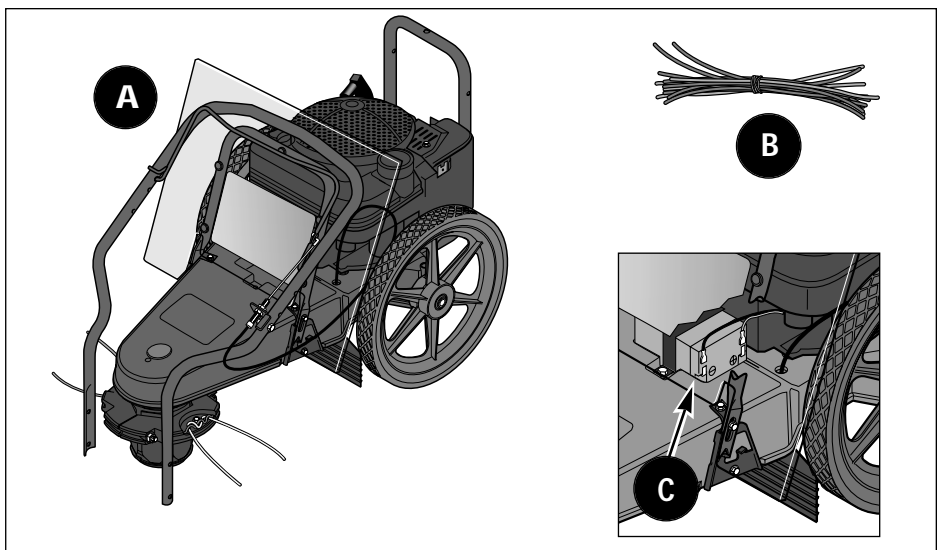

Figure 2-1: Unit as shipped (recoil start model shown). Battery for electric start model is shown in inset.
- Machine Assembly (A, Figure 2-1)
- Extra Trimmer Line (B, Figure 2-1): six pieces of heavy-duty gauge .130" dia. line and six pieces of extra-heavy-duty gauge .155" dia. line.
- (3) Plastic cable ties
- (1) Battery (installed on unit – see C, Figure 2-1)
- (2) Ignition Keys and (1) Battery Recharger (in separate electric start package)